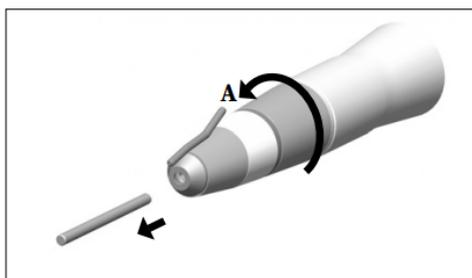

FIG. 5
A: unlocking **FIG. 5**
- Disconnect the drive motor attachment, rotate the locking ring, remove the cutting tool and leave the locking ring loosened **FIG. 5**.